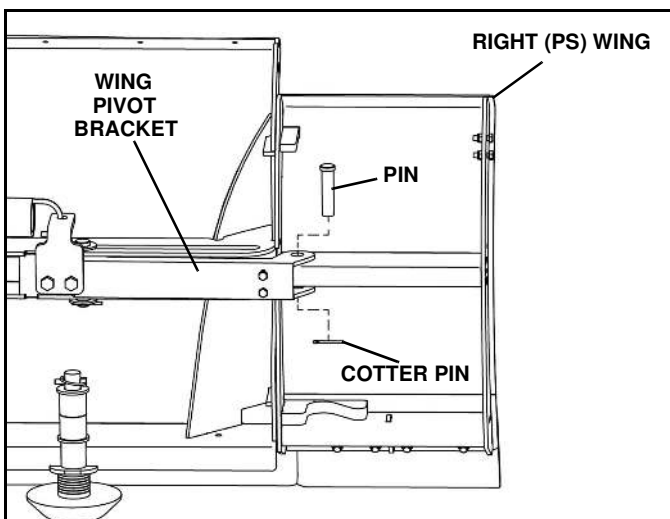

Figure 2-5
2. Install the wing pivot bracket to the wing and secure with a clevis pin and 5/32" x 1-1/2" cotter pin. (See Figure 2-5)